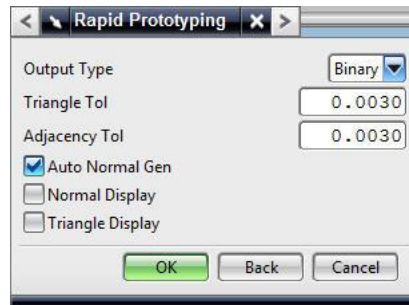

Figure 4
4. **File > Export > STL**. The dialog window will open (Figure 4).
- 4.1. Use Table 2 below for settings depending on desired resolution (Note: Shown settings in Figure 4 are for INCHES). Select **OK**.